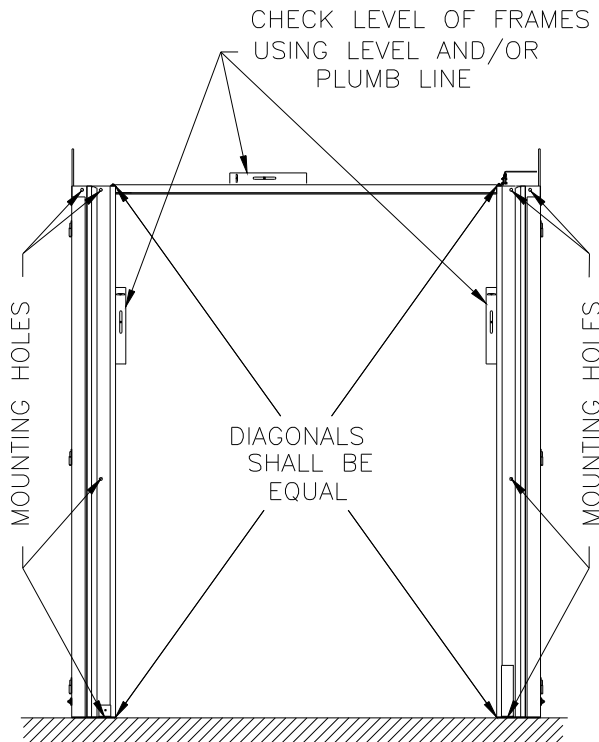

FIG. 6A
- a. Check Uprights and Top Stabilizing Tube for plumb, level, and square (Figure 6a).